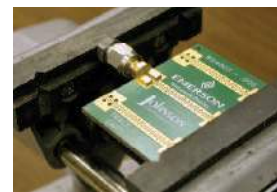

Figure 1
- Fixture 140-0000-973 should be used as an aid during manual soldering. The fixture protects the connector from damage during clamping and also maintains the proper location of the connector's insulator and contact. To use the fixture, thread the coupling nut on the mating end of the connector and hand tighten. This mounting assembly can now be held in a vice or similar clamping device, as shown in Figure 1.